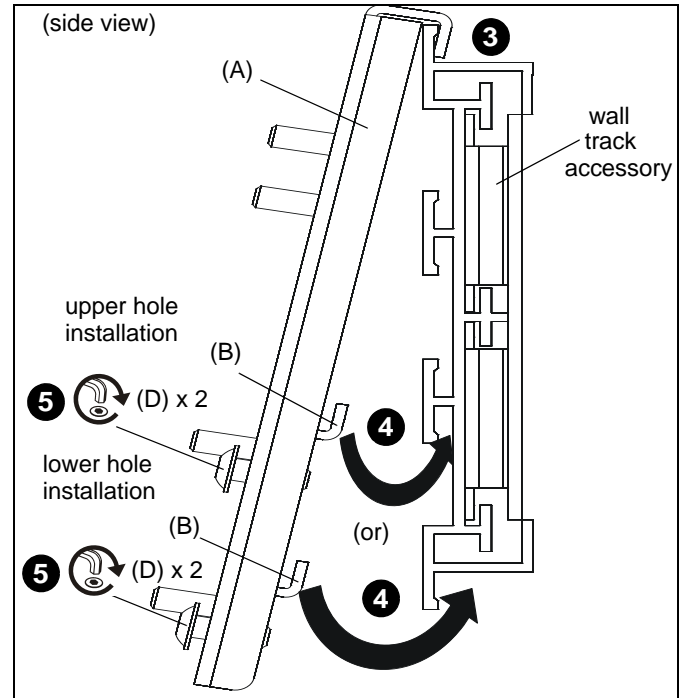

Figure 2
1. Determine whether to use upper or lower holes to attach OFB208 main plate (A) to locking plate (B). If attaching locking plate to bottom of wall track accessory, use lower holes. If unable to attach to bottom of wall track accessory, use upper holes to attach plates. (See Figure 2)
3. Hang top of main plate (A) over the top of wall track assembly. (See Figure 2)
4. Maneuver main plate (A) towards wall track accessory and latch locking plate under corresponding groove. Loosen screws (D) if necessary. (See Figure 2)
5. Tighten two screws (D) until main plate is secured to wall track accessory. (See Figure 2)